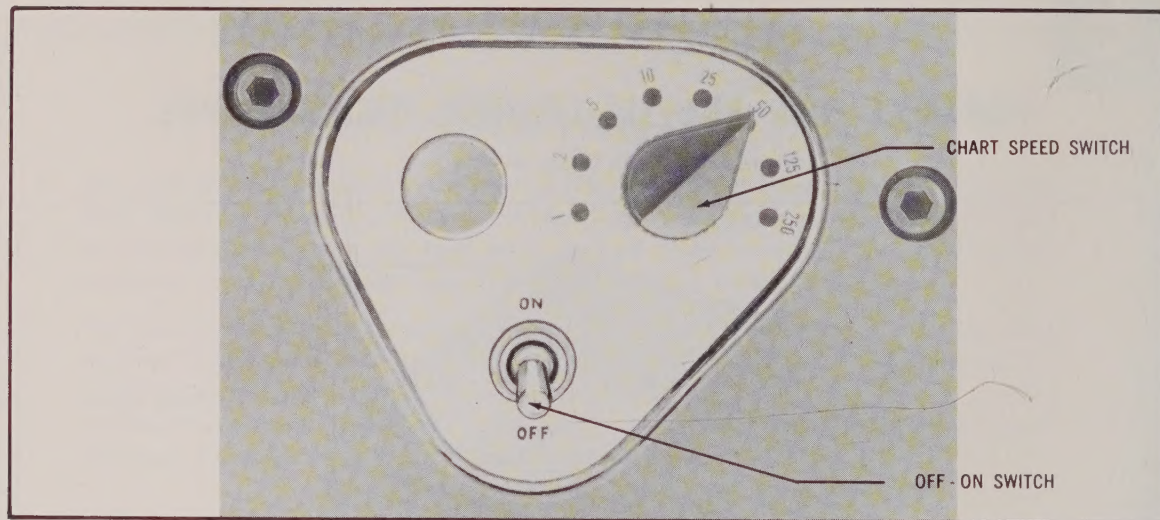

Fig. 2. View Showing Controls (on Right Side)
CHART SPEED SWITCH... Rotary switch, (Fig. 2) selects chart paper speeds of 1, 2, 5, 10, 25, 50, 125 and 250 millimeters per second.
OFF-ON SWITCH..... 2 position toggle switch. Fig. 2. Main power "OFF-ON" switch.
5. Select the chart paper speed desired by means of the CHART SPEED SWITCH. Fig. 2.
17. Select the chart paper speed desired by means of the CHART SPEED SWITCH. Fig. 2.